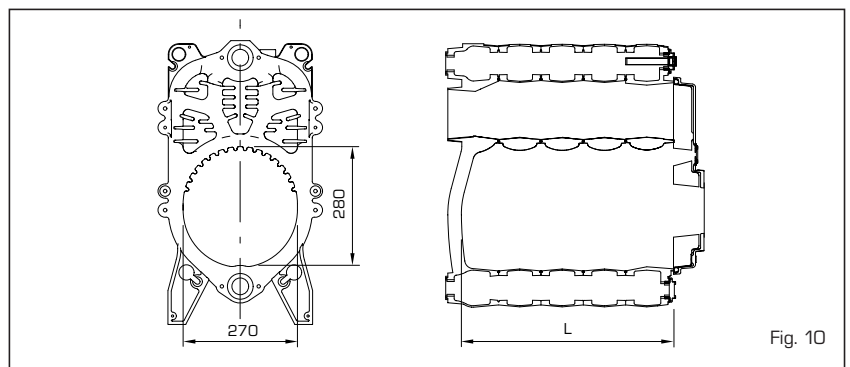

Fig. 10
3.1 COMBUSTION CHAMBER DIMENSIONS (fig. 10)
The combustion chamber is a direct passage type and is conform to the EN 303-3 standard annex E. The dimensions are shown in fig. 10. An adequate protection panel is mounted on the inside wall of the rear head of all the models.